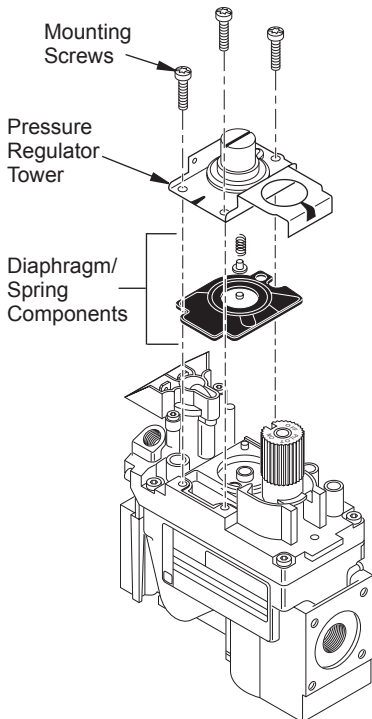

Figure 13 - Removing Mounting Screws, Pressure Regulator Tower and Diaphragm/Spring Components
1. Using a TORX T20 or slotted screwdriver, remove and discard the three mounting screws, pressure regulator tower and diaphragm/spring components (see Figure 13).